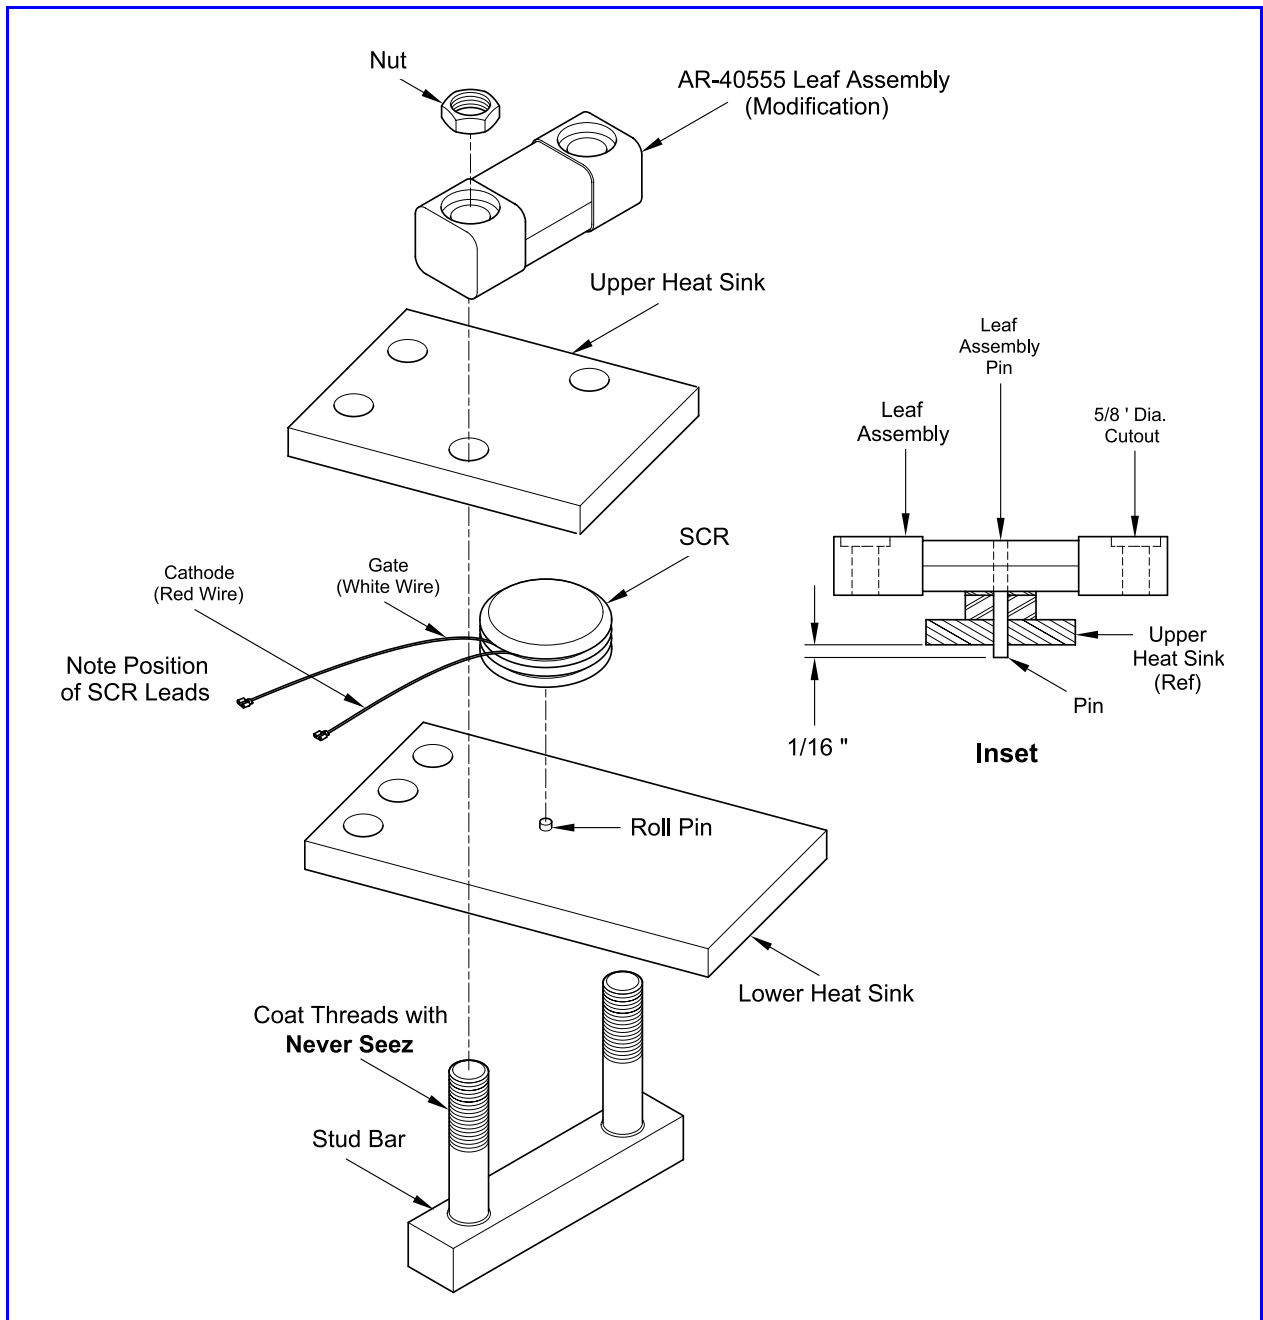

Figure 41 Typical Thyristor Assembly (Showing Modified Leaf Assembly)
9. Coat the threads of the stud bar with **Never-Seez** lubricating compound, if not already coated. Place the leaf assembly over the upper heat sink with the assembly pin protruding $1/16$ " through the heat sink hole. Make sure $5/8$ " diameter cut-out in microsolv coating is facing up. (See inset in **Figure 41**).
10. Assemble the stud bar around the lower heat sink and place the upper heat sink, with the leaf subassembly, over the studs, making sure that the protruding pin picks up the centering hole in the SCR. This is important and care must be taken so that while tightening the clamp, the pin remains in the centering hole. (See inset in **Figure 41**).